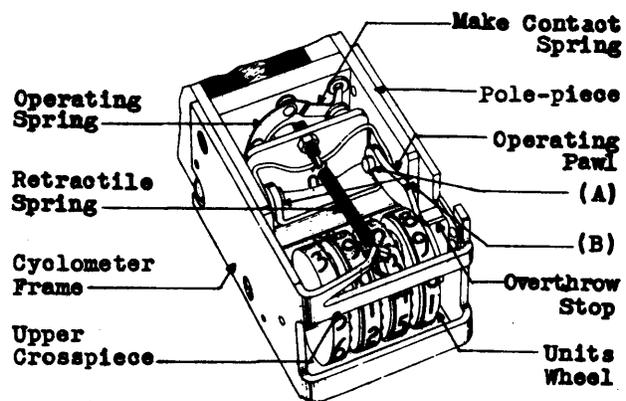

Fig. 4 - 12 Type Register
2.05 Freedom of Operation — Figs. 4(A) and (B) and 5(A) and (B): With the register electrically operated, the operating pawl shall not bind on its bearing or against the pole-piece or the side of the units wheel. If the pawl touches the units wheel due to side play in the pawl, but can be made to stand away from the wheel it shall not be considered as binding against the wheel. This requirement shall be met on every tooth of the ratchet wheel. Gauge by eye and by feel.